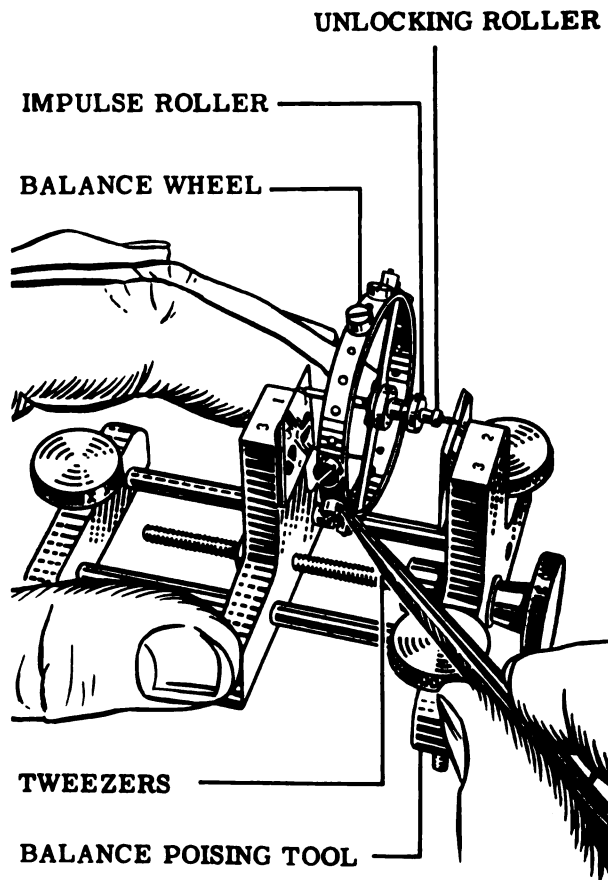
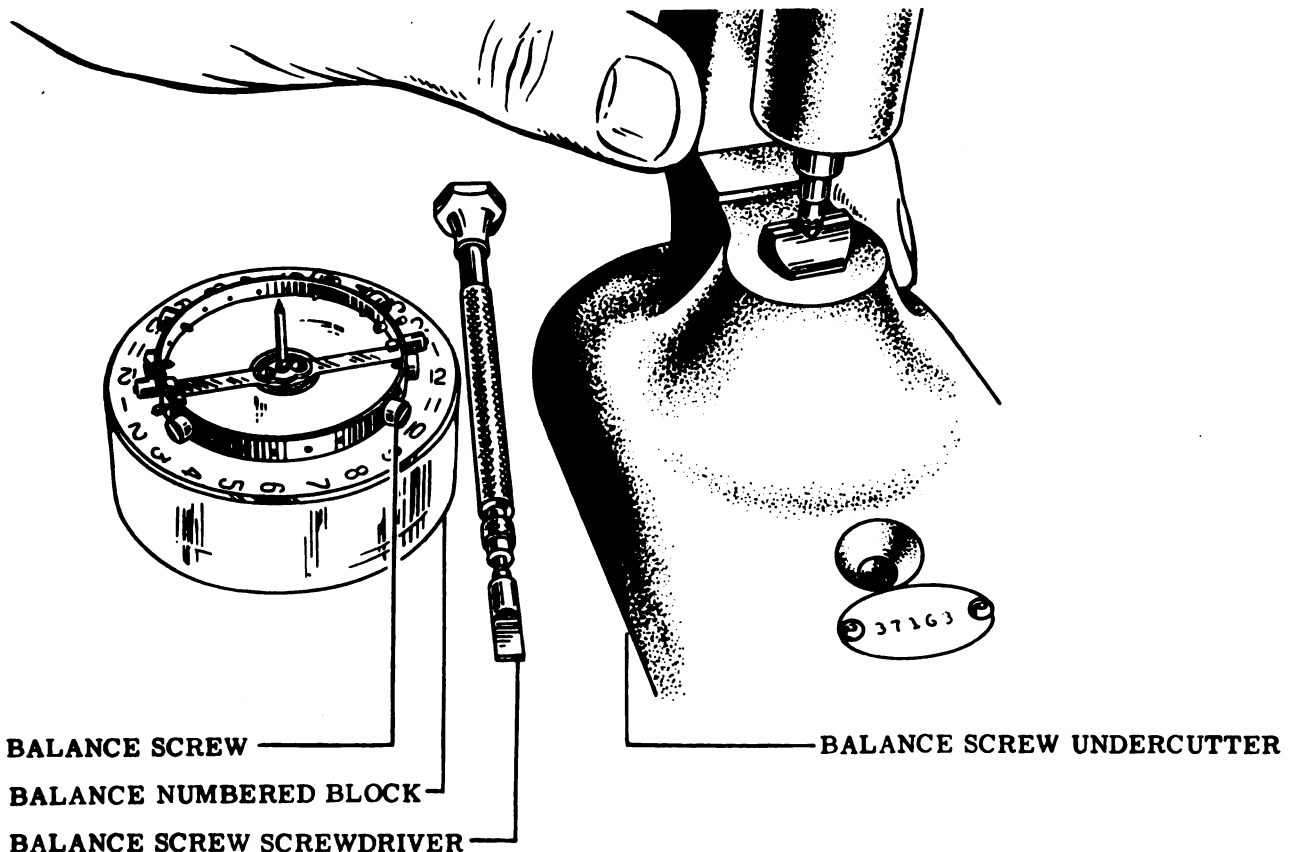

Figure 46
Figure 47
9. Poise balance wheel in balance poising tool, Tool No. 24. See Fig. 46. Place balance in numbered block (Tool No. 54), if screw changes are needed. Undercut screws, if necessary. See Fig. 47. Use balance screw undercutter, Tool No. 30. Install washers, if required.